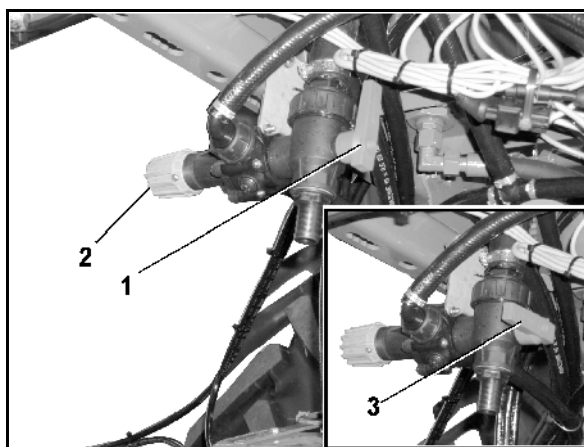

Fig. 78
- the DUS-reversing tap (Fig. 78/1).
- the DUS-pressure relief-valve (Fig. 78/2). The DUS-pressure relief-valve is provided with a fixed adjustment in the factory and reduces the pressure in the pressure circulation system to 1 bar.
When the DUS reversing tap is in position (Fig. 78/1), the pressure circulation system is switched on.
When the DUS reversing tap is in position (Fig. 78/3), the pressure circulation system is switched off.